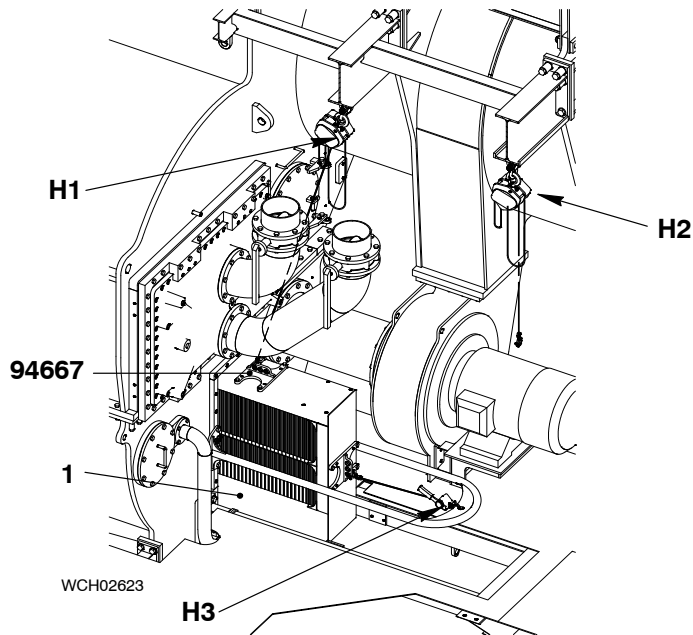

Fig. 8
- 4) Operate the manual ratchet to pull the water separator (1, Fig 8) sufficiently until you can attach the tool (94667).
- 5) Attach the tool (94667) to top of the water separator (1).